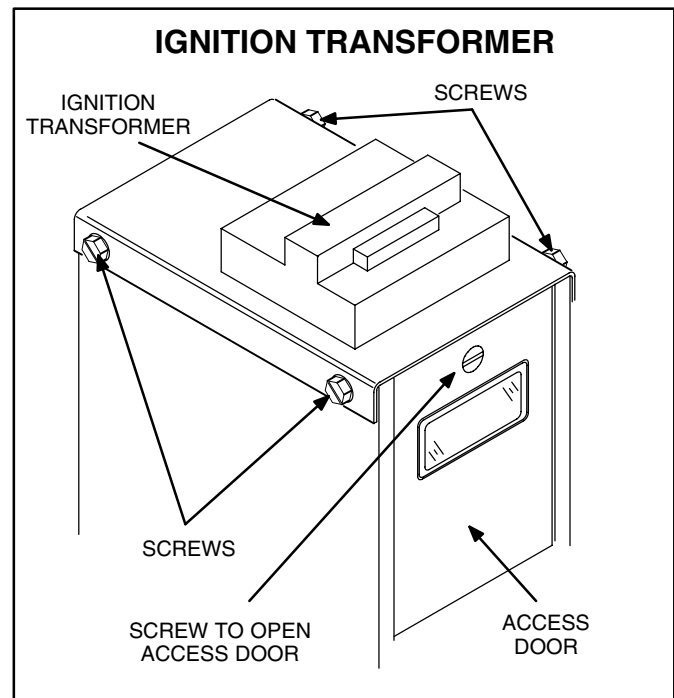

FIGURE 30
- 1- Remove all four screws located on the side of the ignition transformer. See figure 30.
- 1- Loosen the screw to the back access door until door opens. See figures 30 and 31.